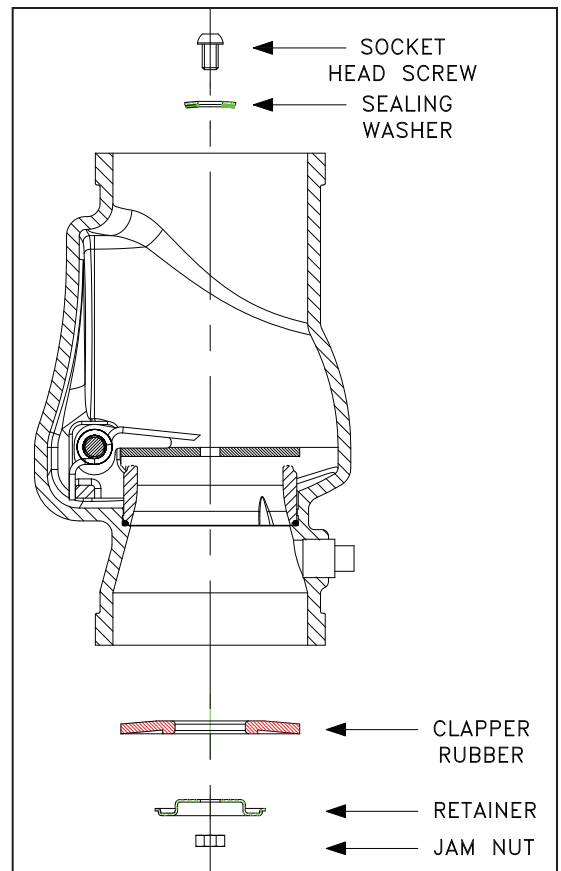
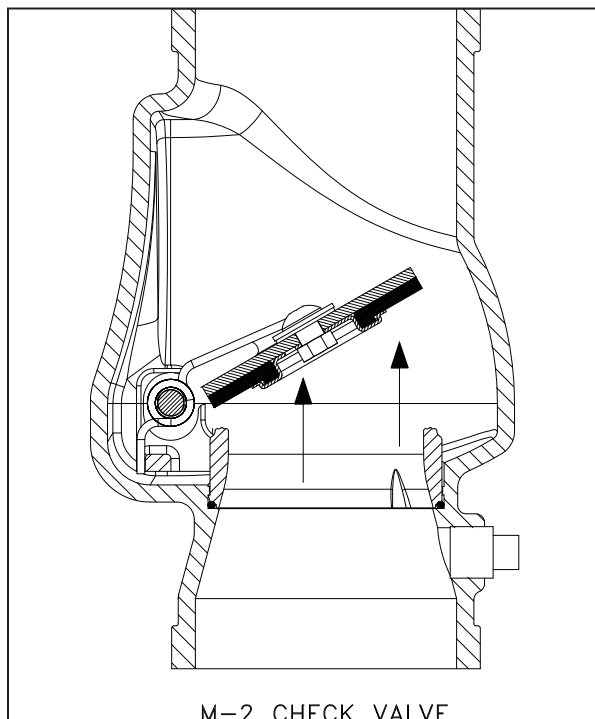
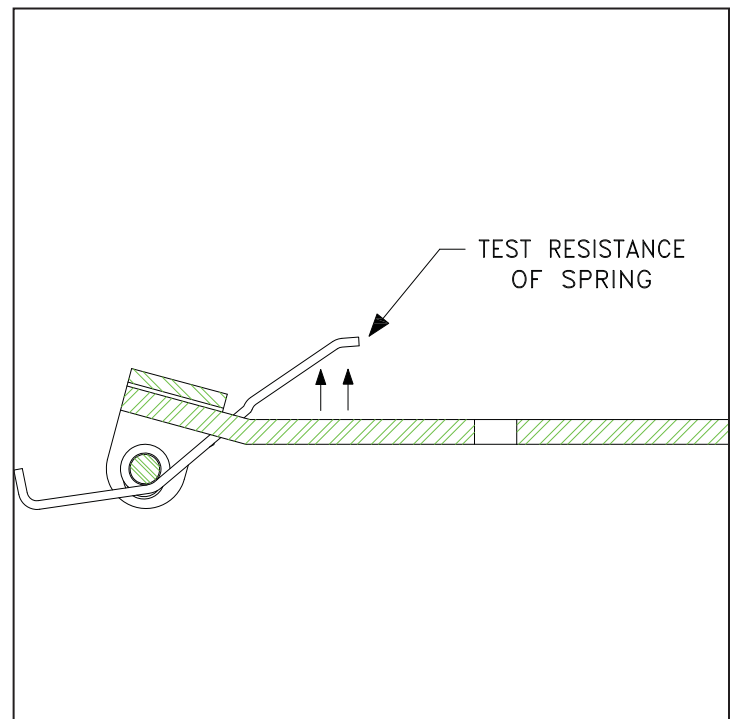

Figure 48
Figure 49
Figure 50
6. Inspect the cover/clapper assembly and cover gasket or rubber (Model M-2 Check Valve) (Figure 48). Test the hinged clapper for freedom of movement (if applicable) (Figure 49). For the Model J-1 Alarm Check Valve, test the spring for tension retention (Figure 50). Spring tension should engage when the top of hinged clapper is moved from perpendicular to the cover toward the open (flow) position. Renew or replace damaged or worn parts as required.